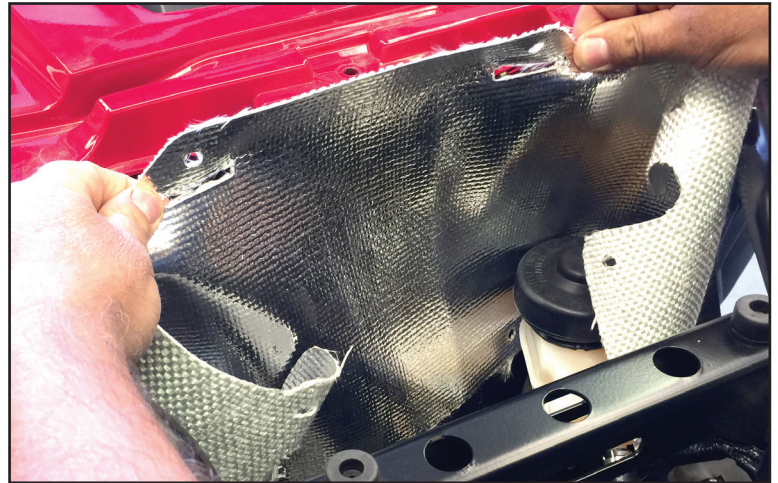

Figure 7
8. Take the soft glass fiber shield and install with the reflective side facing forward. Install with the new supplied push pins. See fig 7